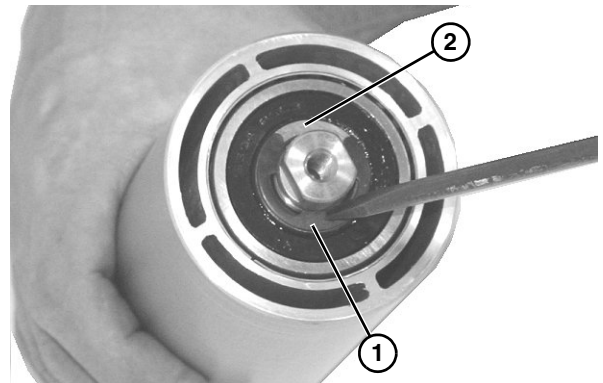

Figure 43
5. Remove the spindle shaft assembly: remove the clip ring (**Figure 43, item 1**) and washer (**Figure 43, item 2**) from one side of the spindle assembly.